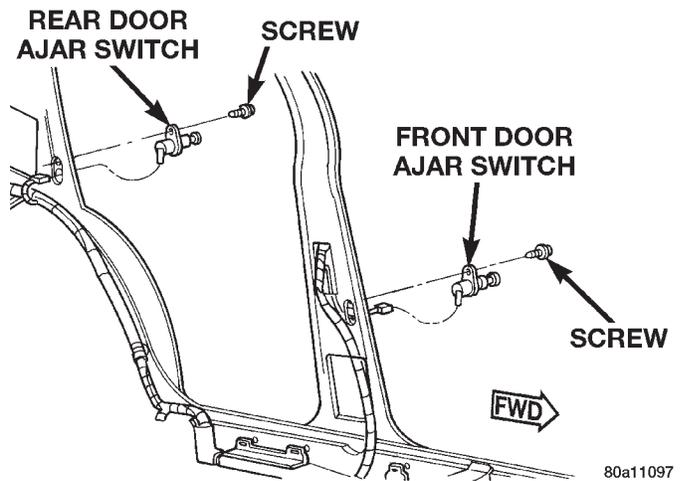

Fig. 5 Door Ajar Switch Remove/Install
- (1) Disconnect and isolate the battery negative cable.
- (2) Remove the screw that secures the door ajar switch to the pillar at the rear of the door opening (Fig. 5).